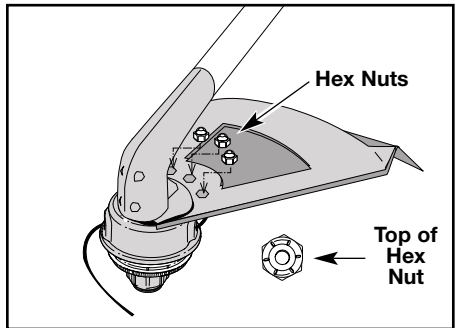

Fig. 3
2. Place the three hex nuts into the recessed holes on top of the guard (Fig. 3).